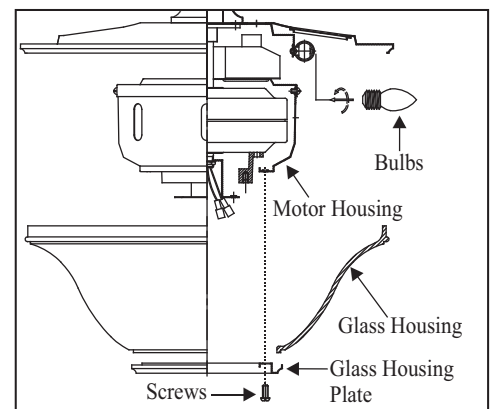

Figure 11
2. Remove 1 of the 3 screws from the motor housing, loosen the other 2 screws (Do not remove). (Figure 11)
3. Place the glass housing plate onto glass housing as figure 11.
holes. Secure the glass housing assembly by tightening the 2 screws loosened and the one removed previously. (Fig. 11)